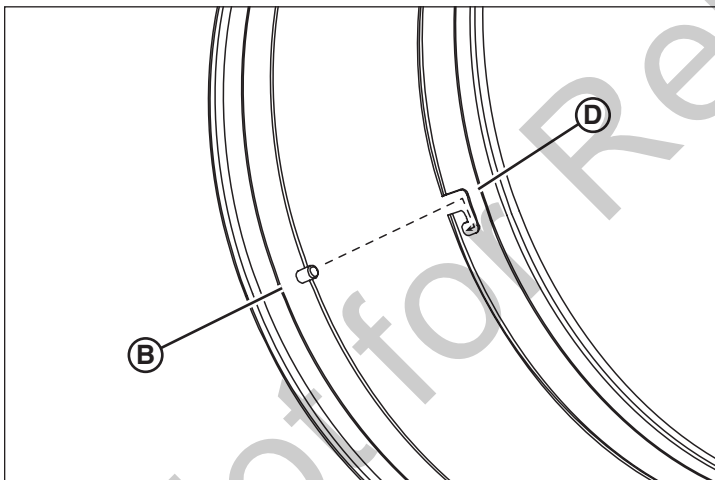

Figure 19
2. To attach the slip-lock flexible duct, align a lock pin and arrow of the connecting band (B, Figure 19) with a “J” slot in the outlet ring (D). Slip the connecting band inside the outlet ring as deep as it will go. Twist the connecting band counter-clockwise to the end of the “J” slot, then pull back to lock.